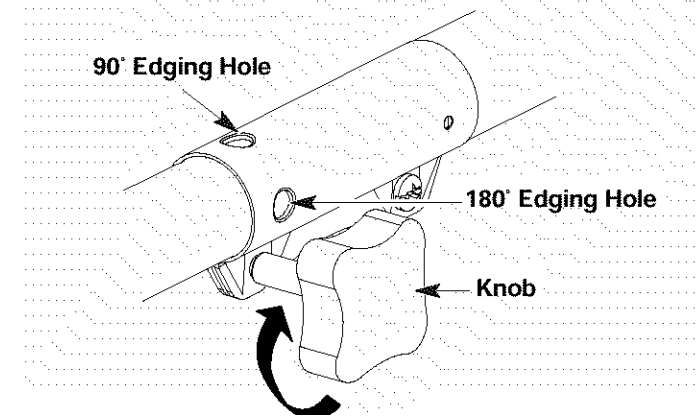

Fig. 12
3. Turn the knob clockwise to tighten (Fig. 12).
For edging when using the line head cutting attachment with EZ-Link™ models, lock the release button of the cutting attachment into the **90° edging hole** or the **180° edging hole**(Fig. 12).